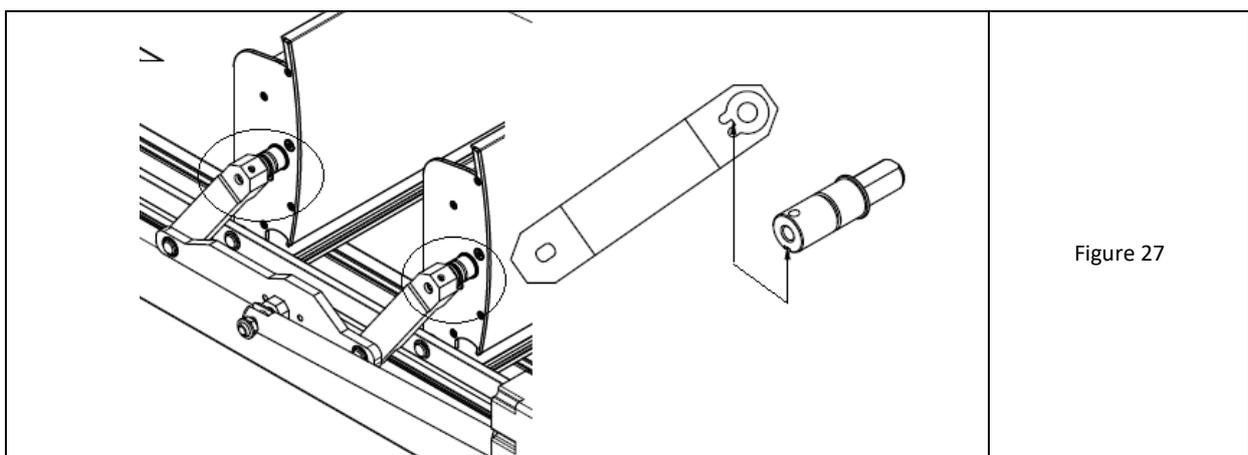

Figure 27
12. Slide one of the drive arms located inside the beam onto the feather drive pin inserted into the beam - using access from the inner window at the top of the drive beam (at the engine). Ensure that the keyways and grooves of the drive arms and the shaft in the pen are accurately aligned (fig. 27).